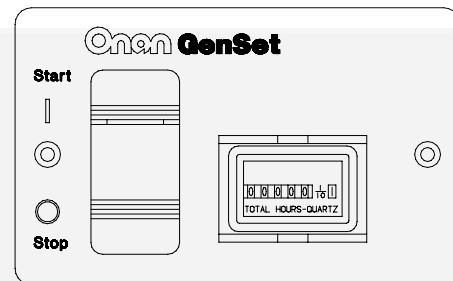

FIGURE 5. START/STOP & HOUR METER
- Remote switch with indicator lamp and hour meter (Figure 5).